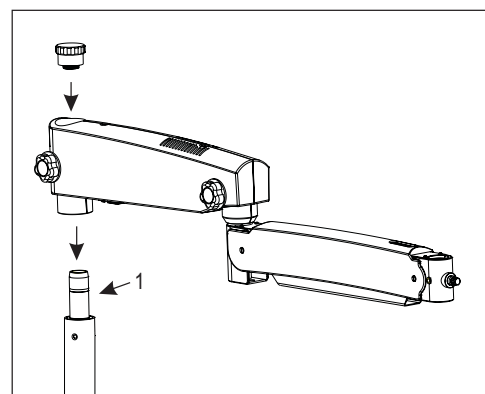

Fig. 4
Install the swivel arm assembly on the upright holding shaft (1). See figure 4.